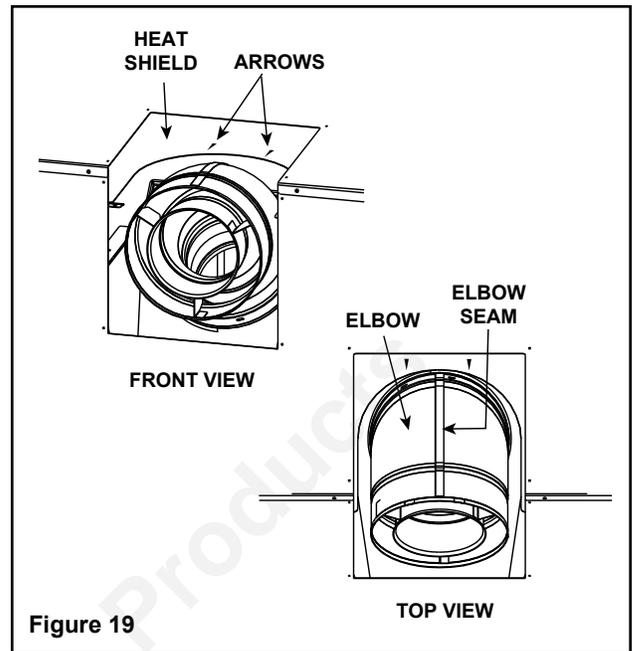

Figure 19
- The elbow can be removed from the unit by aligning the seams of the elbow to the arrows on the surrounding heat shield (see Figure 19).